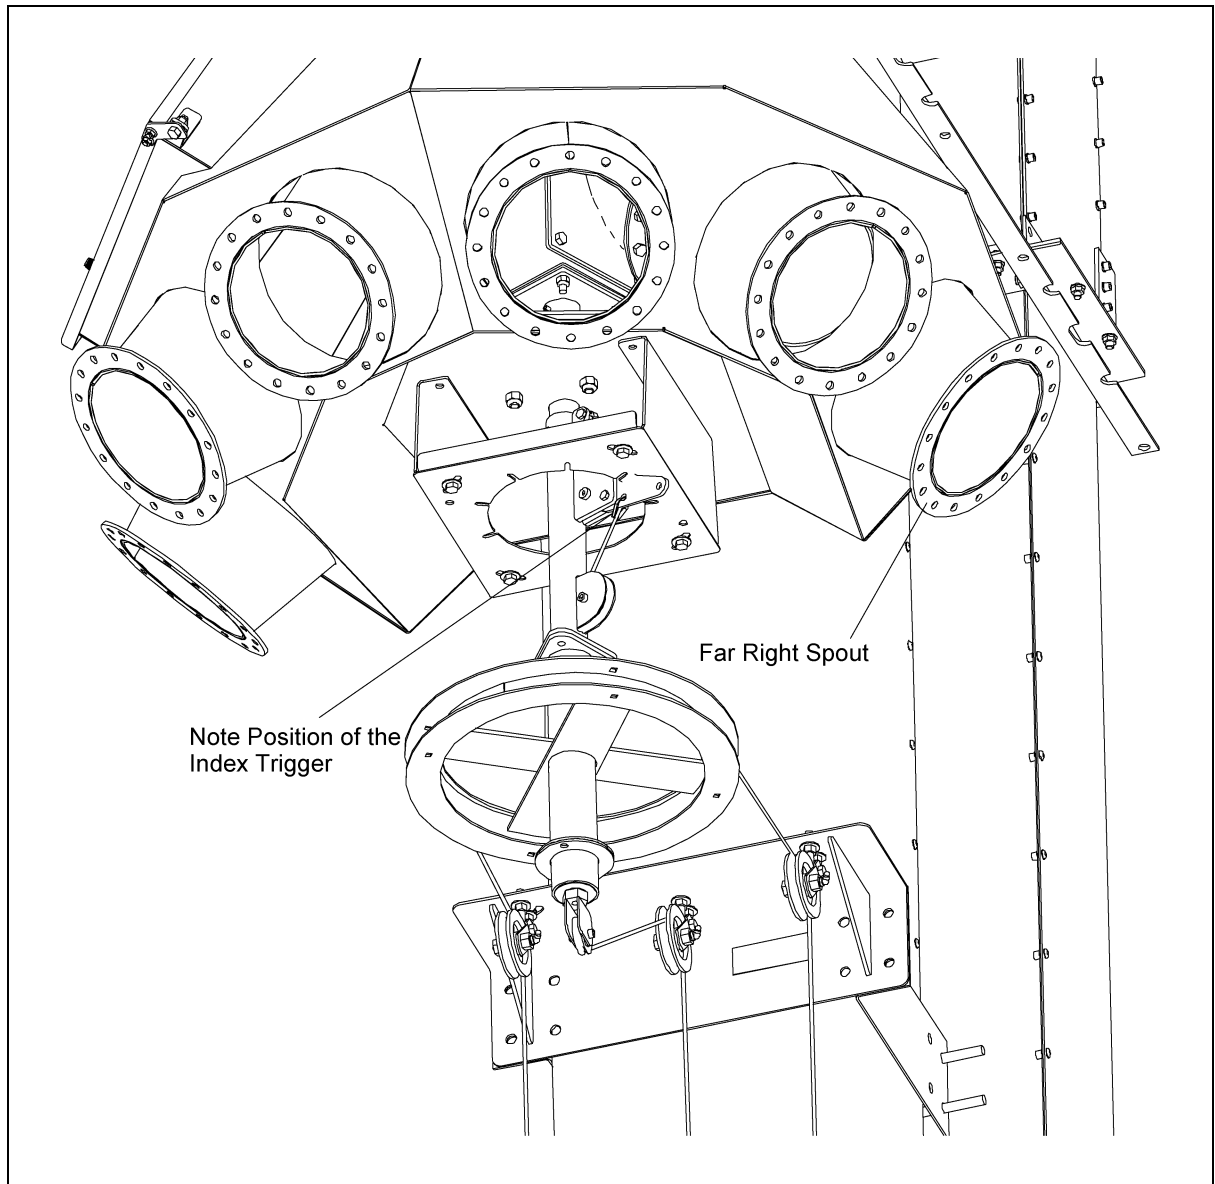

Figure 50
1. Place the discharge spout index trigger to the far right as shown in Figure 50.